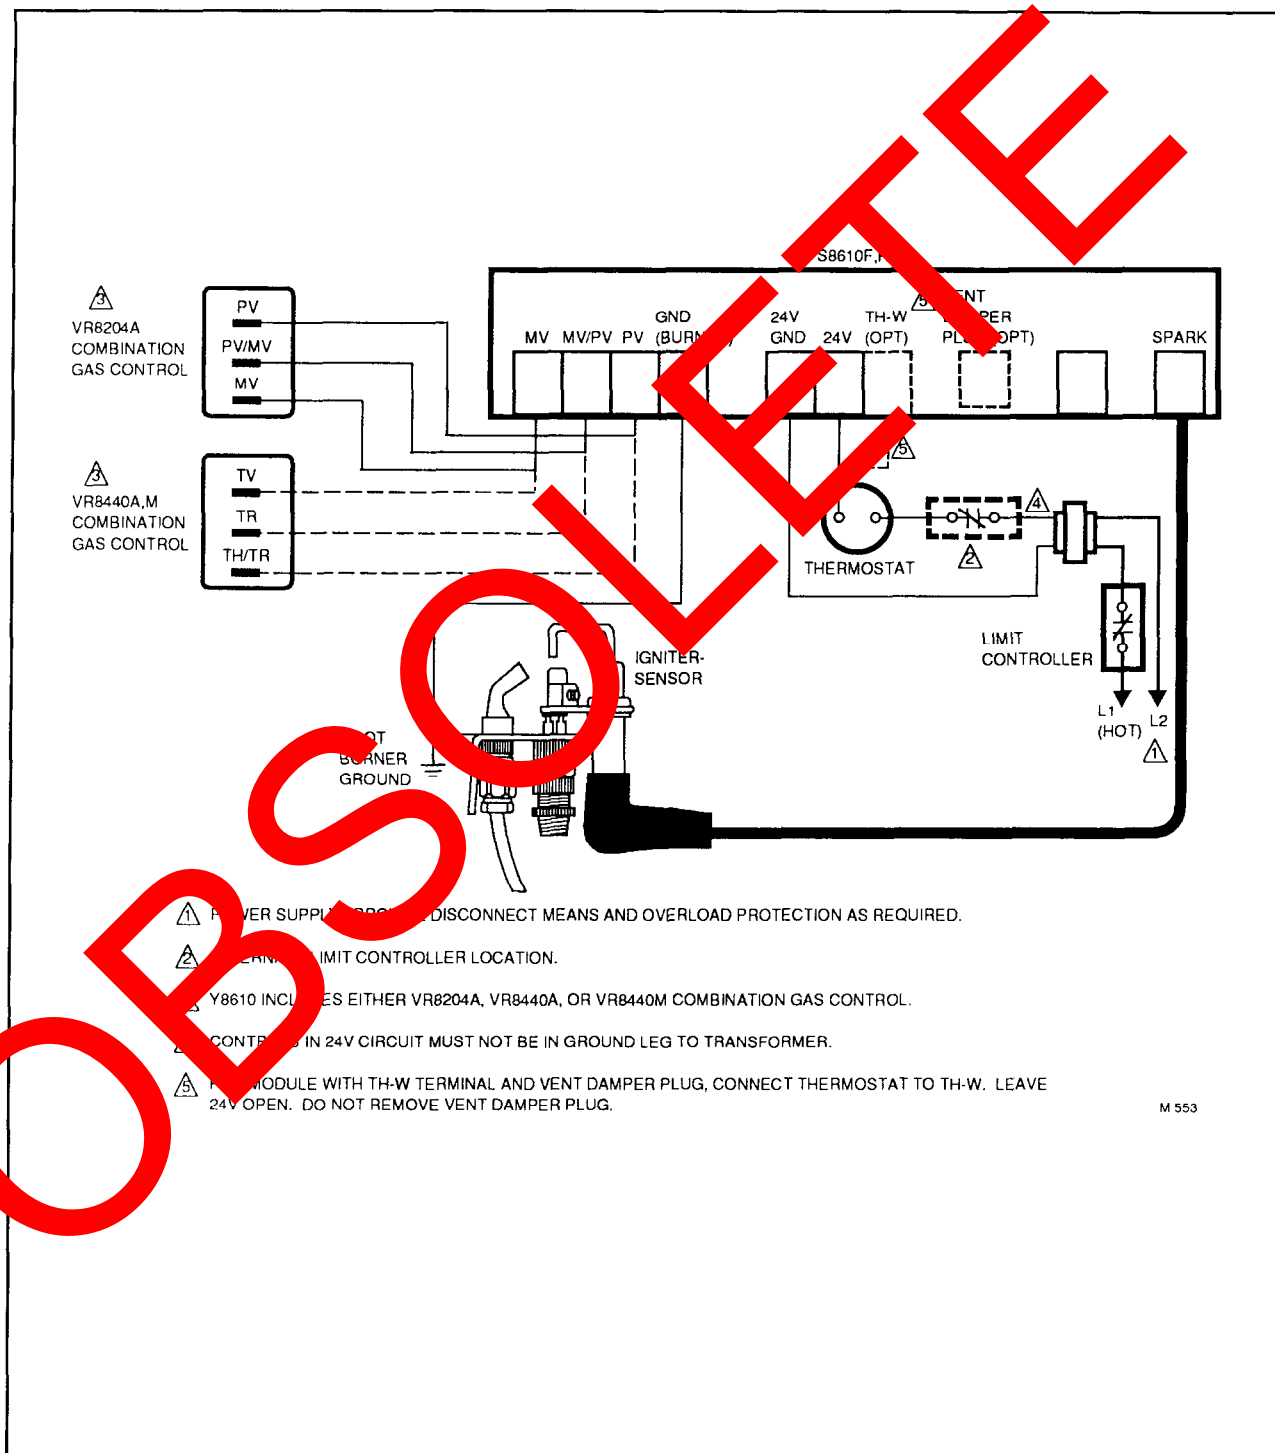

FIG. 14—Y8610 IN TYPICAL ATMOSPHERIC BURNER HEATING SYSTEM.
1. Connect the gas control and other remaining system components to the ignition module terminals as shown in the Figs. 14 through 16.
- Fig. 14 shows a basic circuit for a heating only atmospheric burner system.